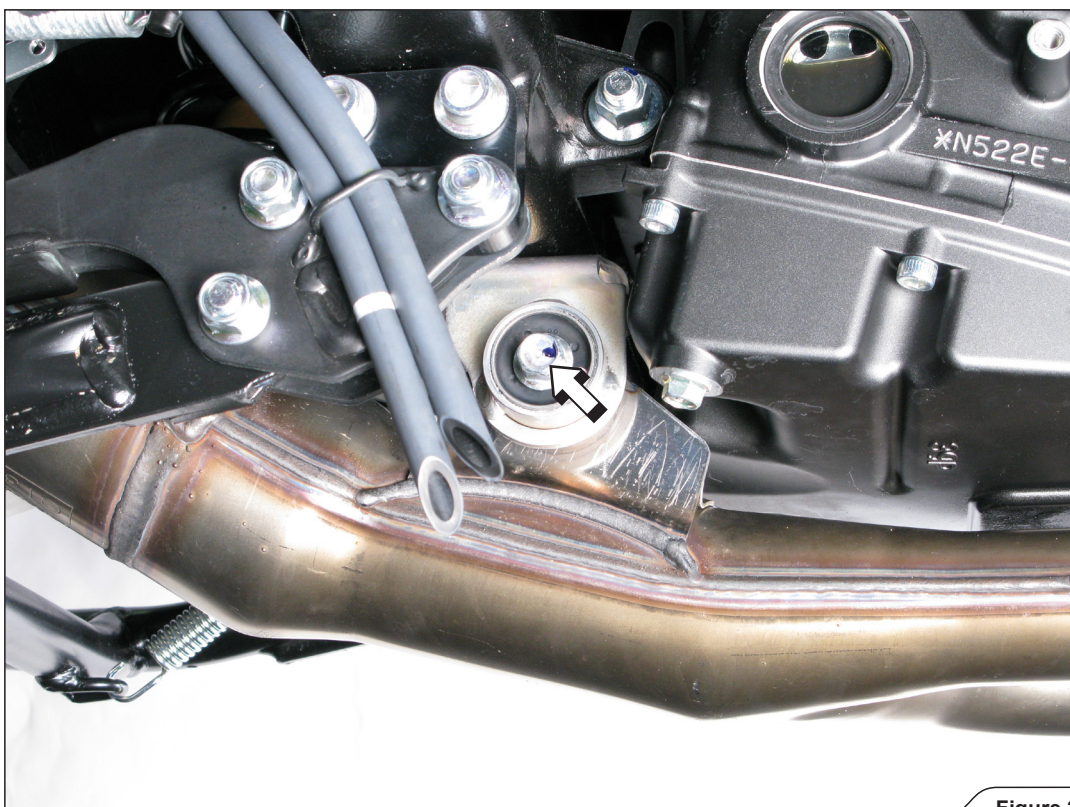

Figure 2
3. Unscrew the marked stock header bracketed bolt (**Figure 2**).